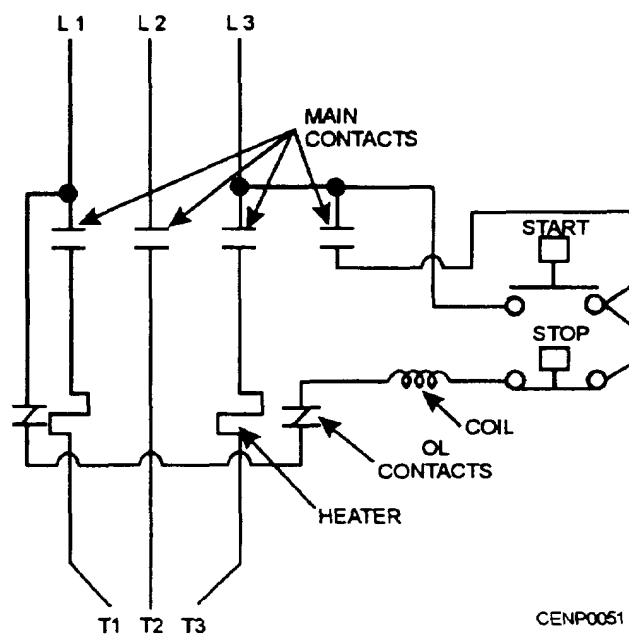

Figure 7-51.—Magnetic starter circuit.
**CONTROL CIRCUIT.**—The control circuit receives its power from the incoming leads to the starter. It is a series circuit (fig. 7-51) going through the start-stop station, the magnetic coil, the overload contacts,
(fig. 7-51). The size of the heaters to be installed is determined by the full-load current draw to the motor. Magnetic starters are manufactured by many different companies. Information for the proper size of heater is given on the cover of the starter.